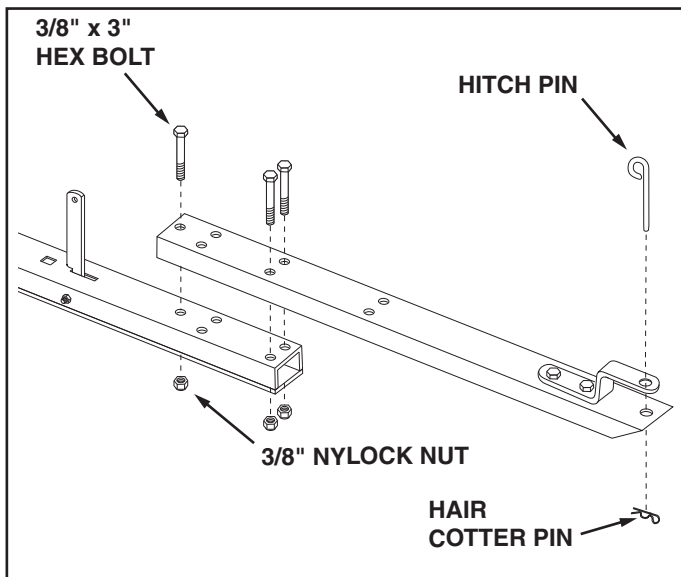

FIGURE 1
- Assemble the front tongue on top of the rear tongue using three 3/8" x 3" hex bolts and 3/8" nylock nuts. See figure 1.
- Install the hitch pin and the hair cotter pin in the hitch bracket and front tongue. See figure 1.